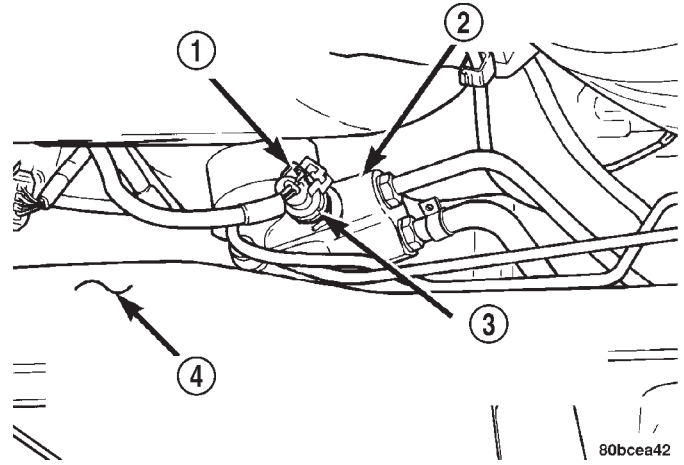

Fig. 6 Power Steering Fluid Pressure Switch
(8) Release the locking tab on the wiring harness connector for the power steering fluid pressure switch before connector removal. Remove the wiring harness connector from the power steering fluid pressure switch (Fig. 6).